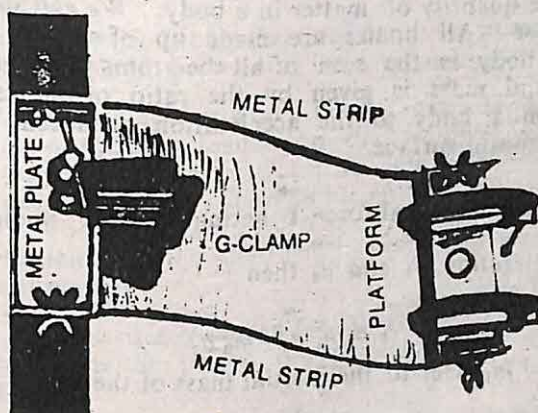

Fig. 4.2. Inertia Balance in Horizontal Motion.
2. Push the platform or the pan to one side with a finger and release it so that the platform starts oscillating in a horizontal plane Fig. 4.2. Since the blades vibrate horizontally the action of the inertia balance is entirely independent of gravity, which acts vertically. Make sure that the blade oscillates for about 10 oscillations with almost the same amplitude. This is necessary for a satisfactory experiment.